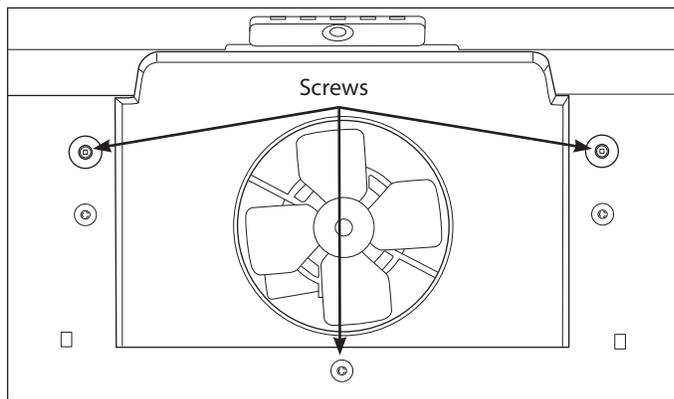

Figure 6-47.
4. Remove 3 screws from fan motor cover and lift out of evaporator cover. (See Figure 6-47)